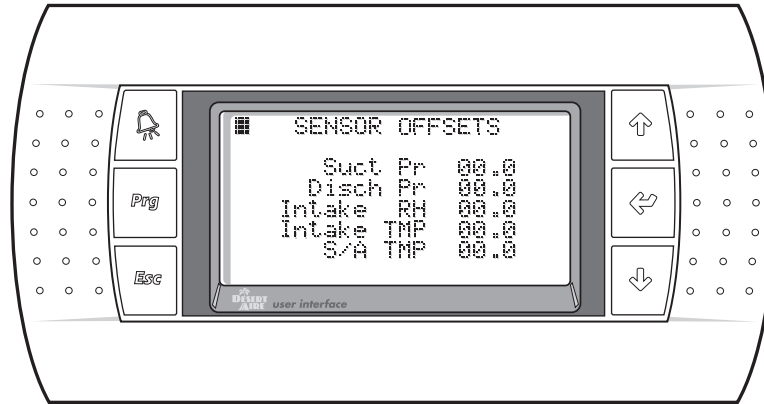

Figure 65
2.6.3. Sensor Offsets (Figures 65 - 66)
These screens allow for the control values of the analog input points to be adjusted if calibration shows these devices to be inaccurate. More than one Sensor Offset screen may be provided depending upon the optional equipment included with your dehumidifier. Pressing the **UP** or **DOWN** keys from the first Sensor Offset Screen, Figure 65, will cycle through all applicable screens. The range of these offsets is -99.9 to 99.9 for the refrigerant pressures, temperatures and humidity. The range for the air pressure and CO₂ sensors is -99 to 99.